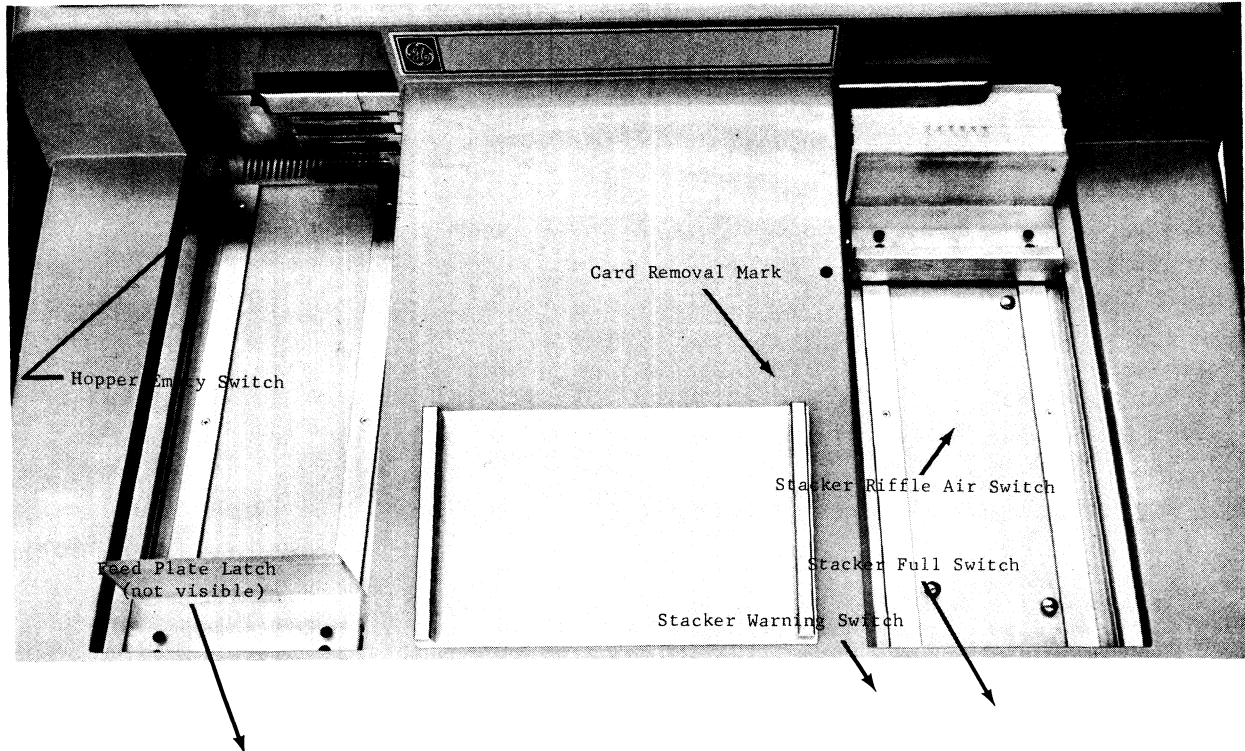

Figure 24. 1000 cpm Card Reader Input-Output Area.
The card input and output areas of the 1000 cpm card reader are on the top surface of the equipment as shown in Figure 24 below.
2. Remove cards to, but not beyond, the red button on the inside edge of the stacker (labeled the "card removal mark" in Figure 24). This button indicates the point at which cards activate the stacker riffle air switch. Cards should be removed without exerting downward or forward pressure on the remaining card stack since this may cause a card jam.